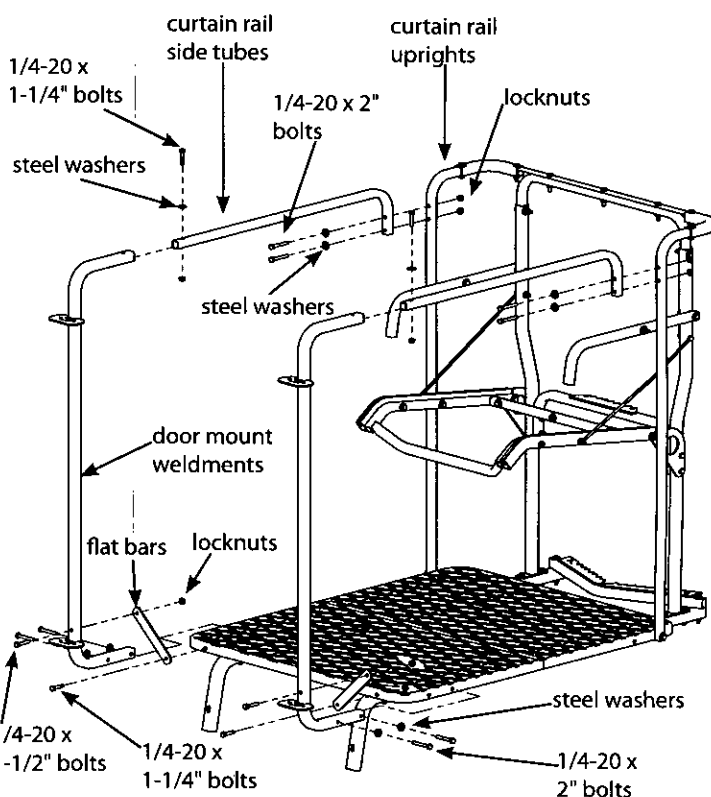

Figure 10
14. Attach the (2) curtain rail side tubes (410018) to the curtain rail uprights using (4) provided 1/4-20 x 2" bolts, locknuts and steel washers. **SEE FIGURE 10.**
15.a. Insert each curtain rail side tube into the door mount weldment (410011) and secure together using (2) provided 1/4-20 x 1-1/4" bolts, locknuts and steel washers. **SEE FIGURE 10.**
b. Attach the bottoms of each door mount weldment to the front platform using (4) provided 1/4-20 x 2" bolts, locknuts and steel washers **SEE FIGURE 10.**
16. Attach (2) flat bars (1ML40) to the front platform and door mount weldments using (2) provided 1/4-20 x 1-1/4" bolts, (2) 1/4-20 x 1-1/2" bolts and (4) locknuts. **SEE FIGURE 10.**